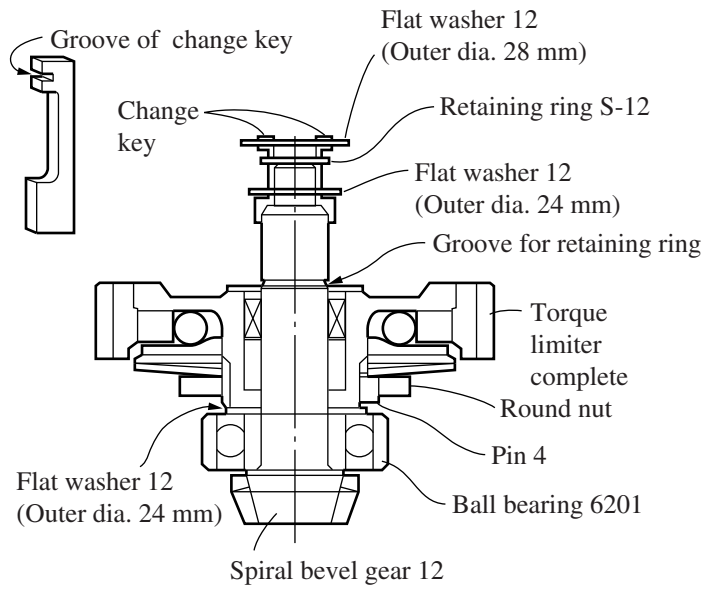

Figure 24
- a. Assemble the ball bearing 6201, Flat washer 12(Outer dia. 24 mm) and torque limiter complete into the spiral bevel gear 12. (See the figure 24.)
- b. Insert the flat washer 12(Outer dia. 24 mm) and Retaining Ring S-12 while setting the two pieces of change keys into the key groove of spiral bevel gear 12, and then insert Flat washer 12(Outer dia. 28 mm) into the groove of Change key.(See the figure 24.)
- c. Slide down the two pieces of change keys into gutters of Spiral bevel gear 12 and then insert Retaining ring S-12 into the groove for retaining ring. (See the figures 24) Make sure that Retaining ring S-12 has been securely inserted in the groove.